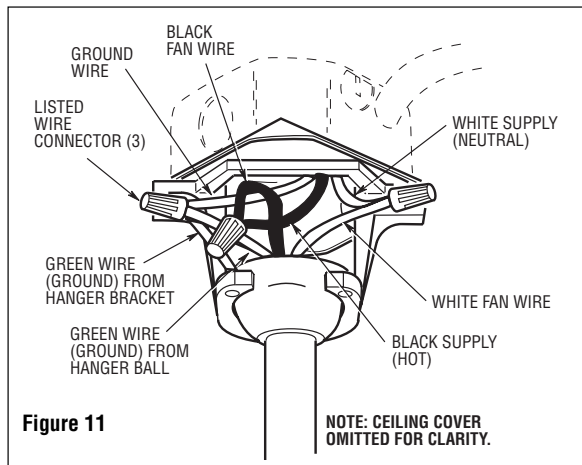

Figure 11
2. Securely connect the fan motor white wire to the supply white (neutral) wire using wire connector supplied (Figure 11). Securely connect the fan motor black wire to the supply black (hot) wire using wire connector supplied (Figure 11). After connections have been made, turn leads upward and carefully push leads into the outlet box, with the white and green leads on one side of the outlet box and the black leads on the other side of the outlet box.